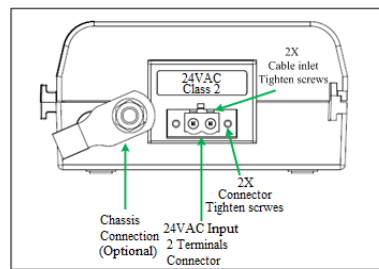

Figure 2: PoE Midspan Power Connector
- The power connector supplied with the PoE Midspan has 2 terminals (See Figure 2) – **The polarity of the input connection is not important.**
- After insertion of cable inlet to the connector terminals tightly fasten all 4 connector screws (See Figure 2).
- Tighten the 2 connector screws (See Figure 2).
- Connect the PoE Midspan Input connector to cables of Stranded Tinned Copper, 12 AWG for each terminal or 2X16 AWG for each terminal (rated for 6 Amperes) and tighten the 2 Cable inlet screws (See Figure 2).